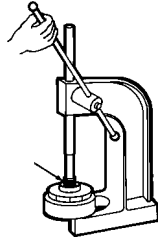

Figure 3
1. To remove the bushing, place the impeller assembly in an arbor press. Insert a 3/4" diameter plastic or wood shaft through the eye of the impeller and press the bushing out. See Figure 3.